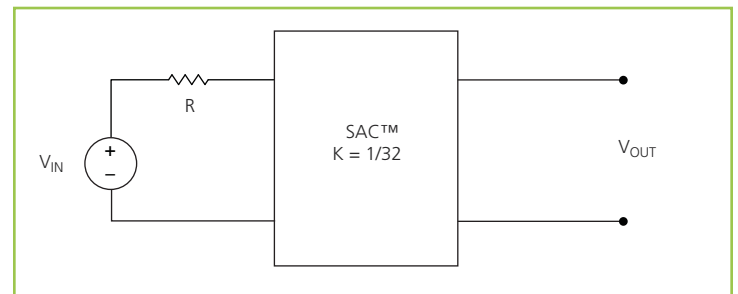

Figure 15 — $K = 1/32$ Sine Amplitude Converter™ with series input resistor
The use of DC voltage transformation provides additional interesting attributes. Assuming that $R_{OUT} = 0 \Omega$ and $I_Q = 0 A$, Eq. (3) now becomes Eq. (1) and is essentially load independent, resistor R is now placed in series with V_{IN} as shown in Figure 15.
Assuming that $R = 1 \Omega$, the effective R as seen from the secondary side is 0.98 m Ω , with $K = 1/32$ as shown in Figure 15.